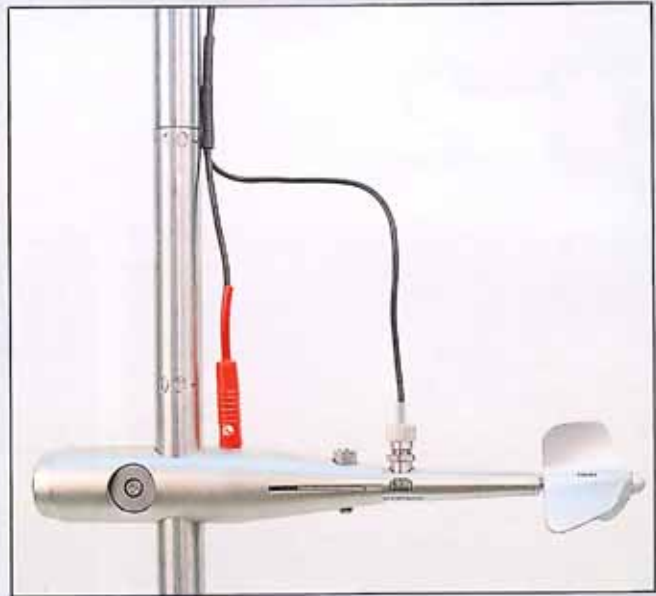

Fig. 2: C 2 Small Current Meter with clamping piece (Adapter), fixed on rod 20 mm dia.
For measurements from higher places (e.g. bridges) it is recommended, by means of the clamping piece (Fig. 2, or item 21 resp.) to use a rod of 20 mm dia. (item 15-20) with relocating device (item 22-24).